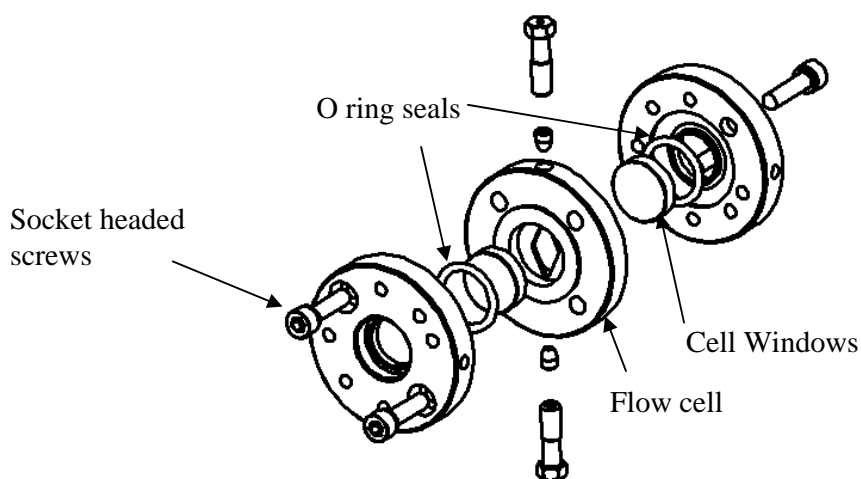

Figure 5.3 Exploded diagram of the cell body
2. The cell will now come apart as shown in Figure 5.3 below.